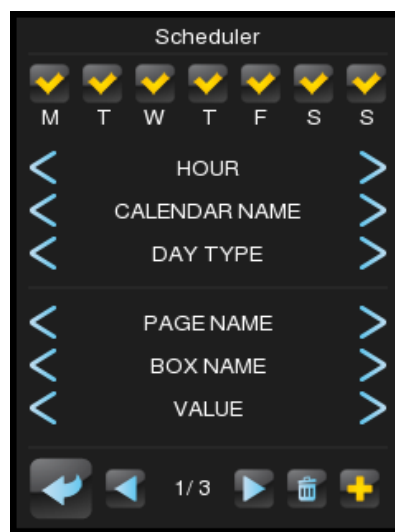

Figure 122 Scheduler
- **Right Button:** opens up the macro configuration panel⁴ (Figure 122).